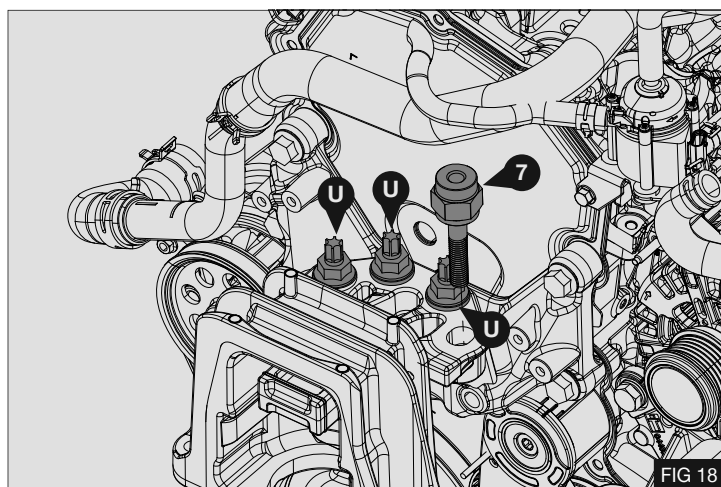

FIG 18
1. Remove and discard 1 x engine mount stud and nut (U) - Fig 18
2. Fit threaded pillar (7)